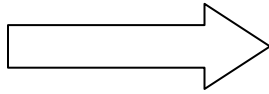

FIG. 5
STEP 4-SEE FIG. 5 – TIGHTEN ALL BOLTS SECURELY USING 7/16” WRENCH.